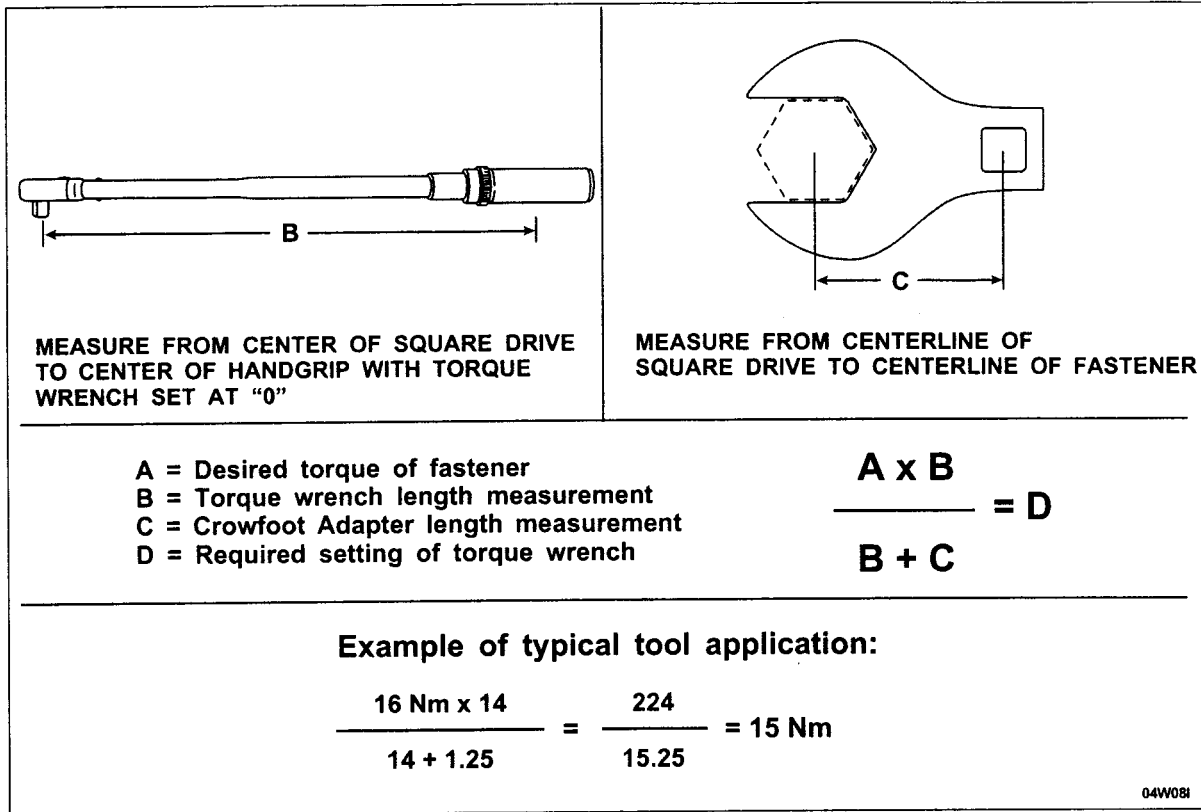

FIGURE 9
11. **CAUTION:** When tightening the brake tube union fittings, a crowfoot adapter must be used on a torque wrench. This increases the length of the tool and changes the actual torque value. To achieve the proper torque on the fasteners, you must use the formula provided in this document to calculate the proper setting for the torque wrench/crowfoot you are using. See Figure 9.